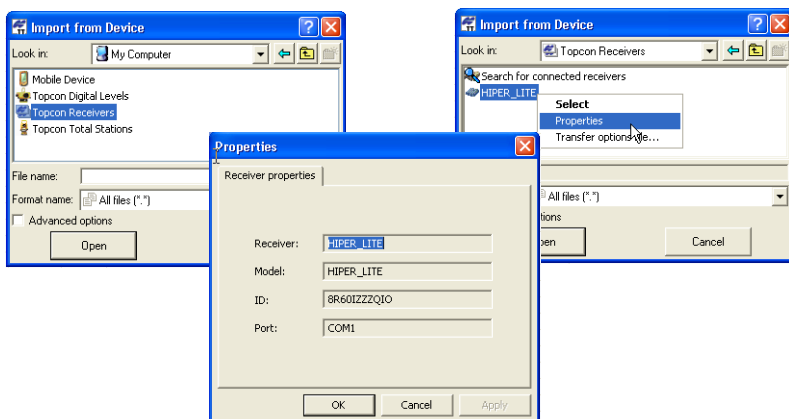

Figure 3-37. Connected Device(s) and Device Properties
3. Click **Topcon Receivers** in the *Import from Device* dialog box (Figure 3-37). Topcon Tools will search for Topcon receivers connected to the computer (COM or USB port). When finished, all receivers connected to the computer will display.
To view information about a receiver, right-click the receiver and click **Properties** (Figure 3-37).
2. Double-click **Topcon Digital Levels** in the *Import from Device* dialog box (Figure 3-37).